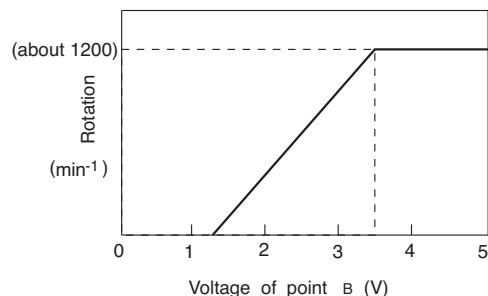

Fig. 5-3
- This pulse changes to analog voltage by R751 and C751 and it is applied to the fan motor as instruction voltage number of rotations. The relationship between the voltage of point Ⓑ and number of rotations becomes as shown in Fig.5-3. (The gap may arise depending on the condition of unit.)
- The feedback pulse of number of rotation is outputted from the fan motor and input to microcomputer pin ⑭. The frequency of this pulse is 12/60 of the number of rotations. (Ex: 1000min-1 × 12/60=200Hz) The microcomputer observes this frequency and to make it as the instruction number of rotation all the time, adjusts the output pulse width of pin ④〇.